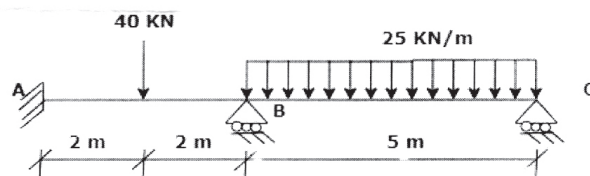

Figure 7
- Q5) a)** Analyze the beam shown in figure 7 by Stiffness Matrix Method. [12]